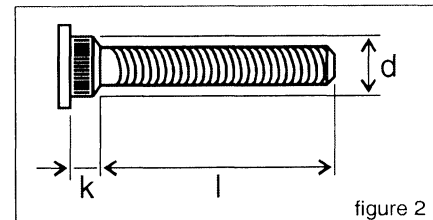

figure 2
3. **Pro-Spacer** System 5 is delivered complete with all necessary attachments. However, it is essential to verify some of the sizes of these attachments. In particular, make sure that the knurling length (k) and the knurling diameter (d) (Figure 2) of the Eibach special knurled bolts correspond to the original knurled bolts. As well as the shape, the thread size with its specific thread diameter and thread pitch must be verified.